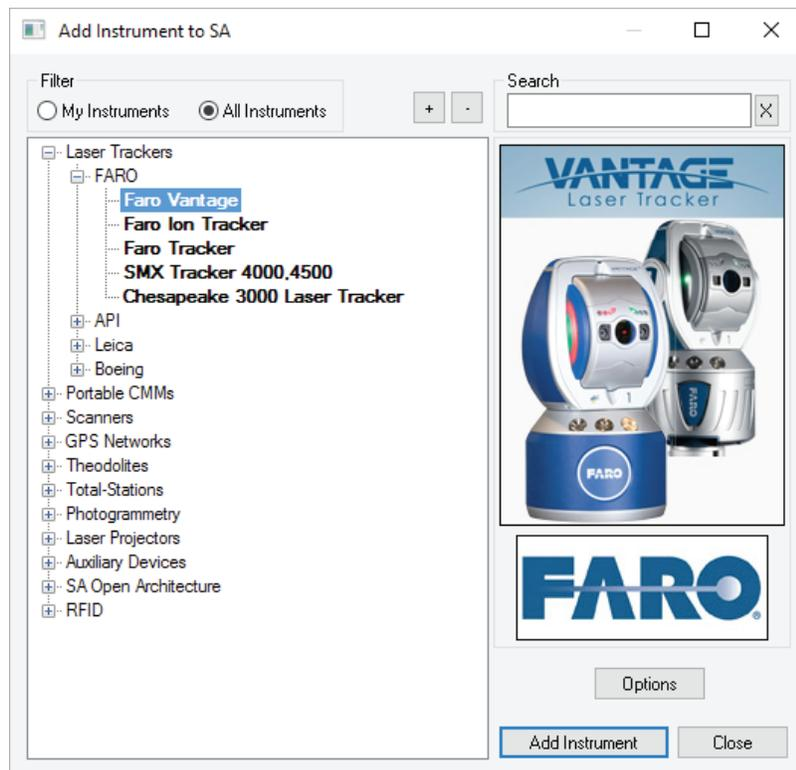

Figure 14-63. Adding a Faro tracker
1. Select **Instrument > Add** and choose the appropriate Faro tracker from the *Add Instrument to SA* dialog (Figure 14-63).